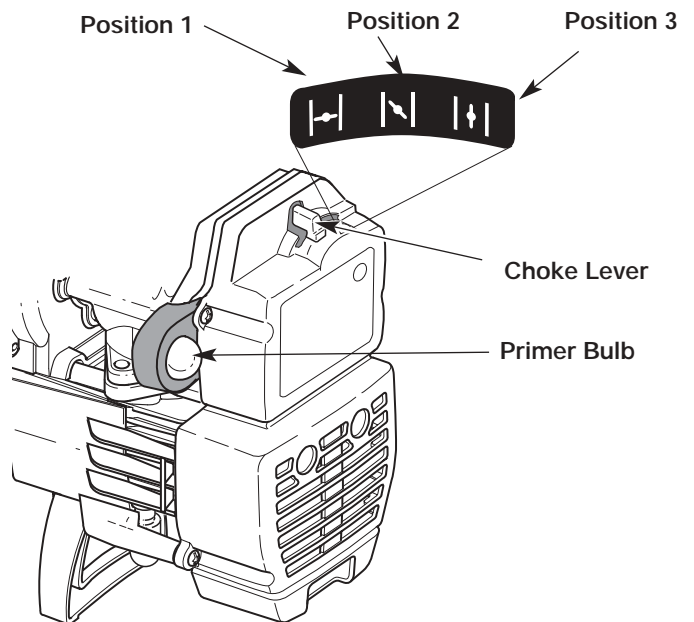

Fig. 7
2. Fully press and release the primer bulb 10 times, slowly. Some amount of **petrol should be visible in the primer bulb** and petrol lines (Fig. 7). If you can't see petrol in the bulb, press and release the bulb as many times as it takes before you can see petrol in it.
3. Place the choke lever in Position 1 (Fig. 7).